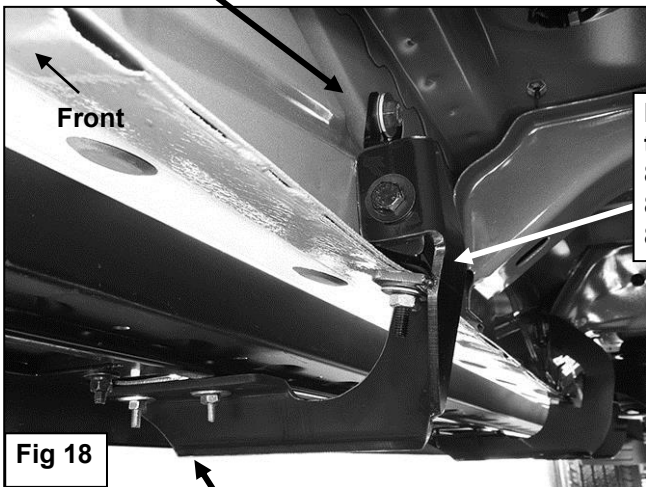

Fig 18
13. Repeat **Steps 5—7** to install the passenger side Running Board, (**Figure 18**).